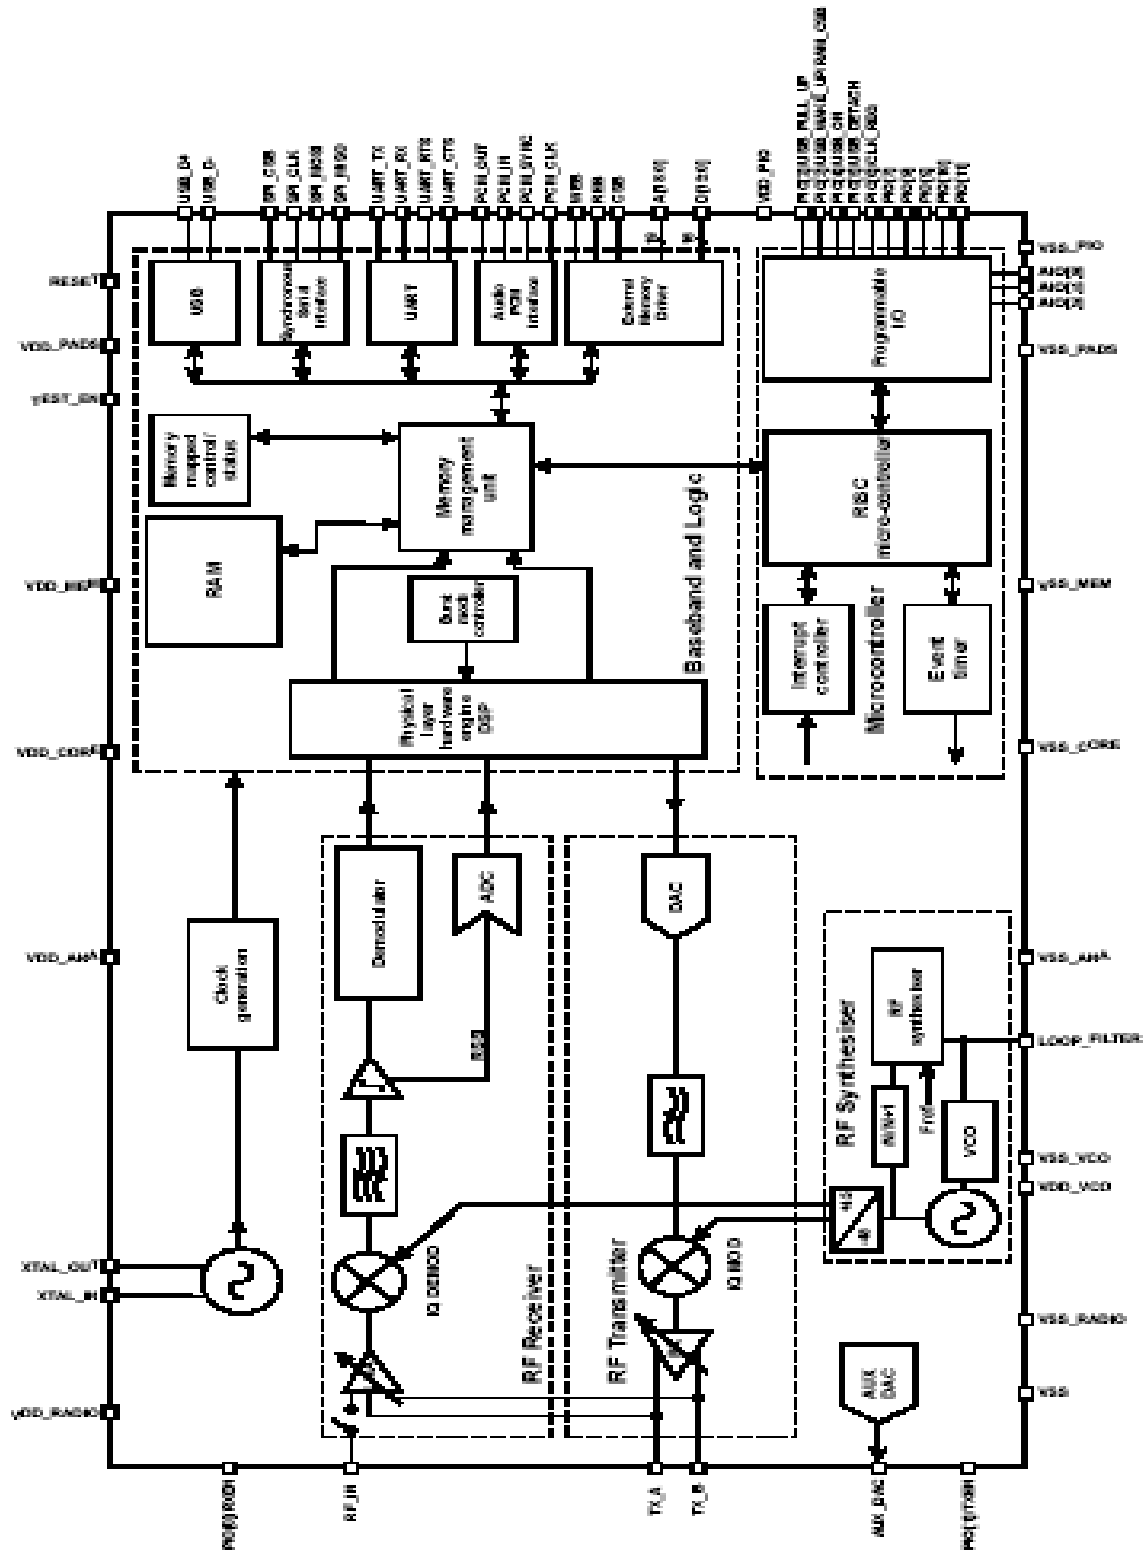

Figure 2. BC02 Device Function diagram
The receiver features a near-zero Intermediate Frequency (IF) architecture that allows the channel filters to be integrated on to the die (Figure 2). Sufficient out-of-band blocking specification at the Low Noise Amplifier (LNA) input allows the radio to be used in close proximity to Global System for Mobile Communications (GSM) and Wideband Code Division Multiple Access (W-CDMA) cellular phone transmitters without being desensitized. The use of a digital Frequency Shift Keying (FSK) discriminator means that no discriminator tank is needed and its excellent performance in the presence of noise allows BlueCore2-External to exceed the Bluetooth requirements for co-channel and adjacent channel rejection.